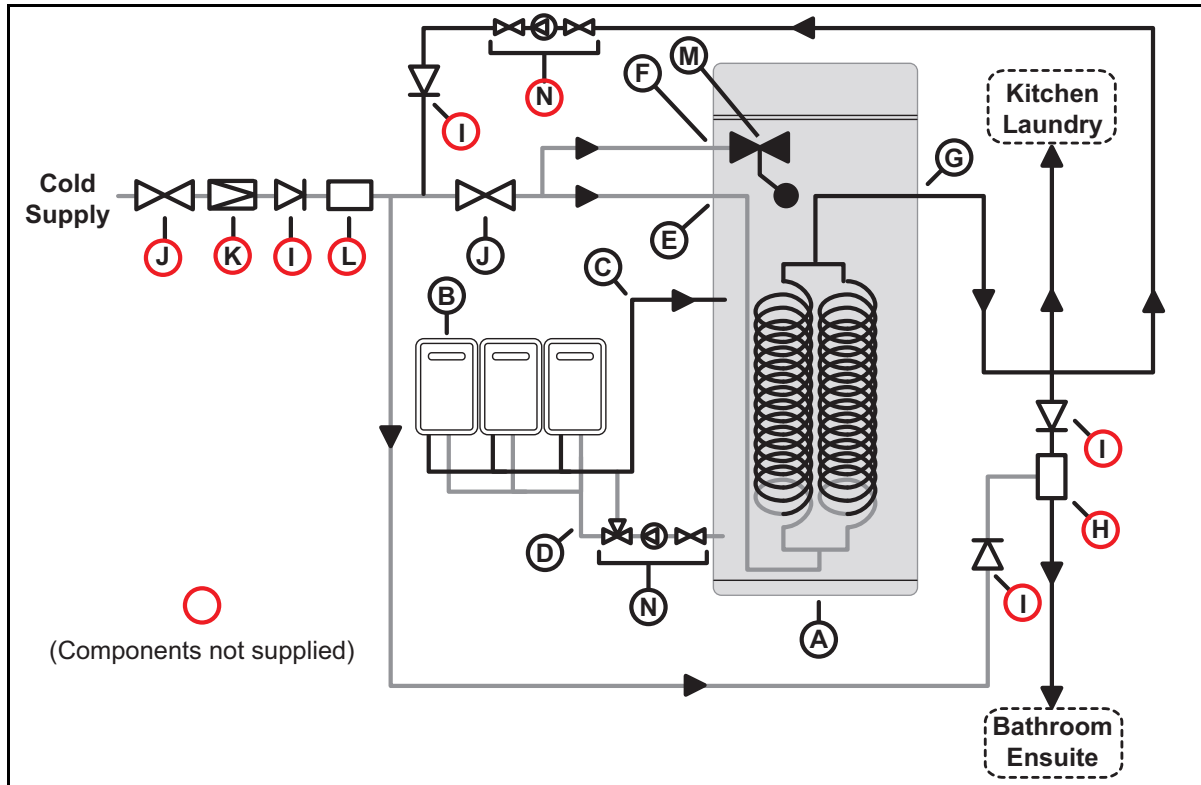

Figure 3 - Heated water plumbing system example to AS/NZS 3500.4, with temperature limiting device (TLD)
Local regulations and/or the requirements of AS/NZS 3500.4 must be considered regarding the temperature of water delivered to sanitary fixtures used primarily for the purposes of personal hygiene. This temperature may be limited to 50°C or less depending on the application and may require the use of temperature limiting devices such as tempering or thermostatic mixing valves. (Refer to Figure 3).
- Mount primary circuit pump in a suitable location for connection to tank and manifold pack. Install isolating ball valves and diverting valve on suction and supply side. Mount pump on absorption isolators and fix pump cover. (Supplied in fitting kit). Refer Figure 3 (showing diverting valve arrangement).
- **Local regulations and/or the requirements of AS/NZS 3500.4 must be considered regarding the temperature of water delivered to sanitary fixtures used primarily for the purposes of personal hygiene. This temperature may be limited to 50°C or less depending on the application and may require the use of temperature limiting devices such as tempering or thermostatic mixing valves. (Refer to Figure 3).**